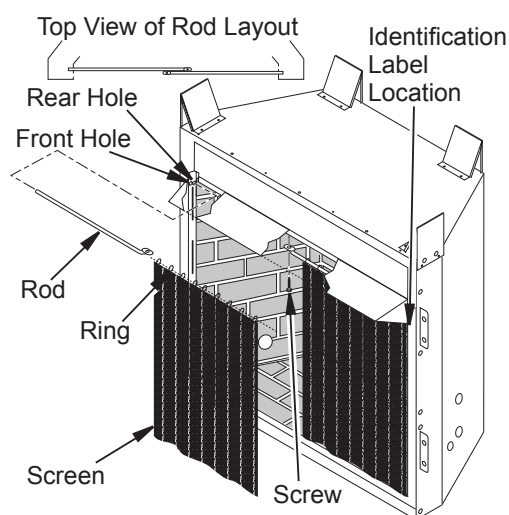

Figure 14 - Installing Fireplace Screen (Model May Vary From Illustration)
4. Insert first rod into rear hole in left side of firebox. Fasten rod to rear hole near center of firebox using #10 x 3/8" Phillips screw provided (see **Figure 14**).